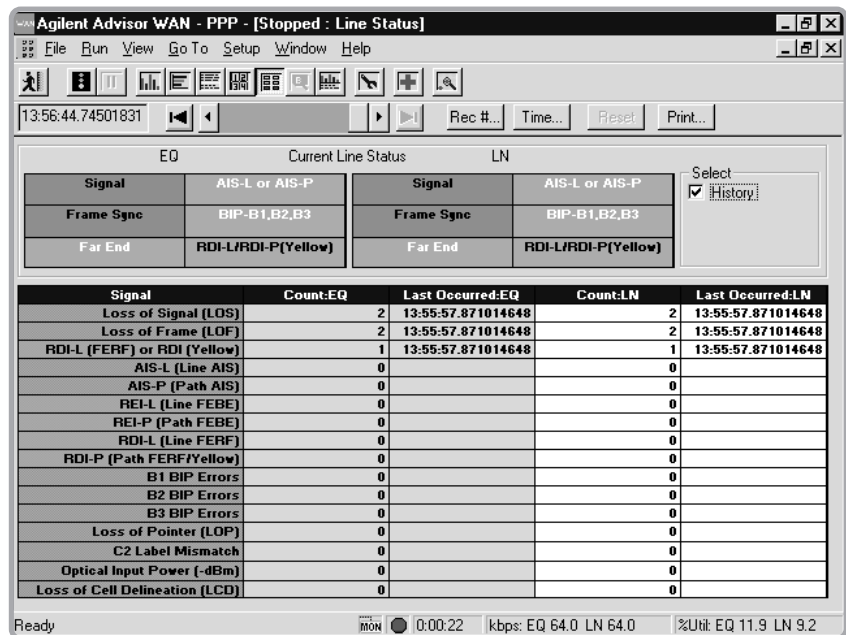

Figure 7: Line Status Measurement.
- Physical Layer Statistics (see figure 7)